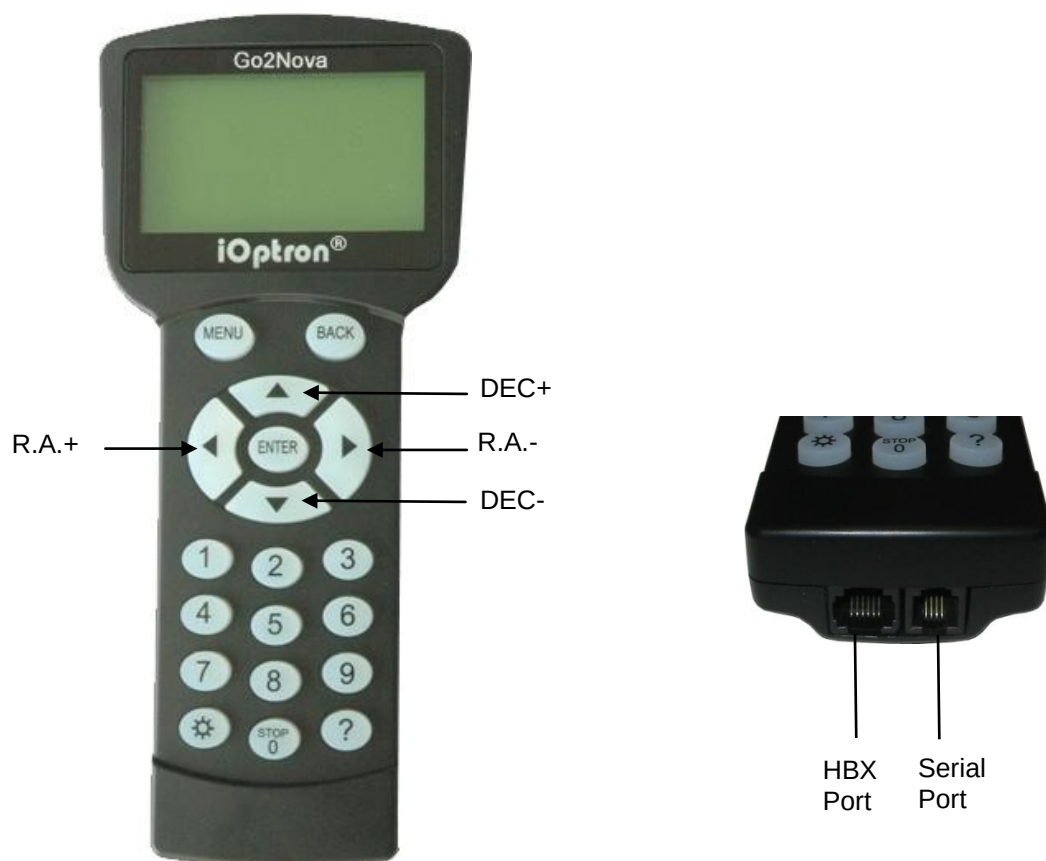

Figure 9. Go2Nova[®] 8407+ hand controller
The Go2Nova[®] 8407+ hand controller (HC) shown in Figure 9 is the standard controller used on the CEM70 mount. It has an integrated heater that ensures the LCD display will work at the temperature as low as -20°C (-4°F). It has a large LCD screen, function, direction, and number keys on the front; a red LED reading light on the back; and a HBX (6-pin) and a serial port (4-pin) at the bottom.